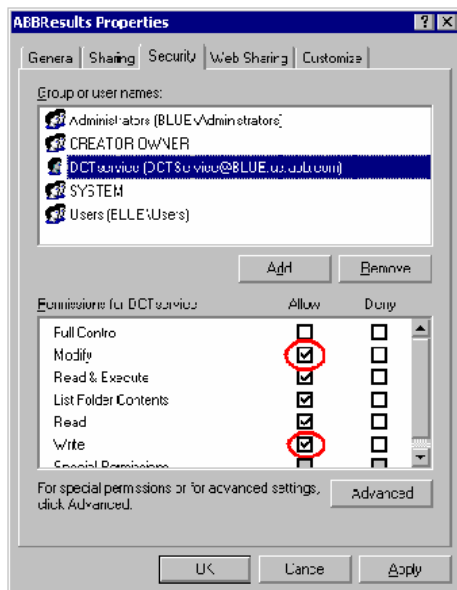

Figure 13. Modifying the ABResults Security Folder
- f. Upon return to the ABResults Properties dialog box, configure it according to Figure 13.